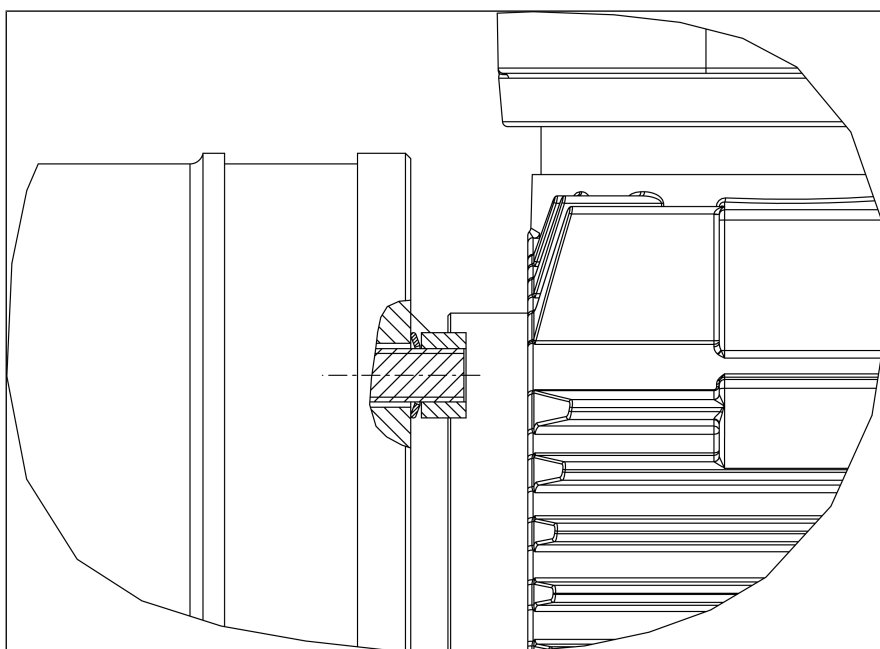

Fig.20 Alignment of the ribbed disk (2)
3. Check whether the flange surface of the motor (3) and the flange surface of the compressor housing (7) lie properly on top of one another.
4. Push the 4 ribbed disks (2) onto the stud bolts (8).
Make certain that the inner diameter of the ribbed disk (2) lies against the nut (1) and the outer diameter lies against the motor flange (3) (see Fig. 20).